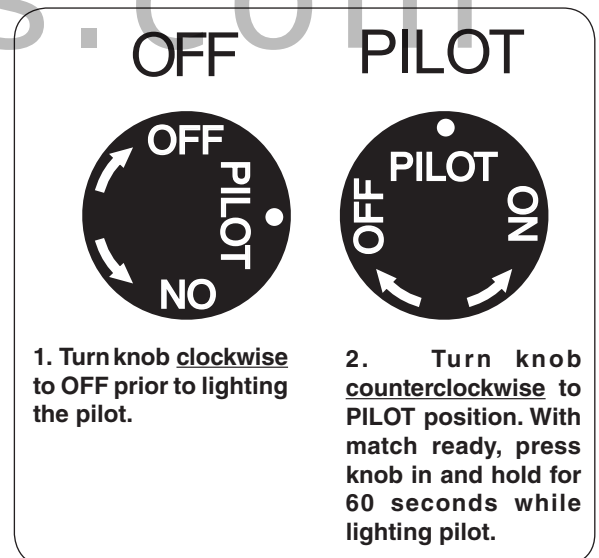

Fig. 27-1 Control knob detail (OFF, PILOT)
- 1.** Locate the valve on the side of the unit. Push in the gas control knob slightly and turn clockwise to **OFF** (Fig. 27-1).
- 2.** Turn the control knob counterclockwise to **PILOT** (Fig. 27-1). Push the control knob **firmly and fully** in and hold. Hold a long fireplace match or lighter near the thermocouple to light the pilot. Continue to hold the control knob in for approximately 60 seconds after the pilot is lit, then release the knob. The pilot will remain lit.